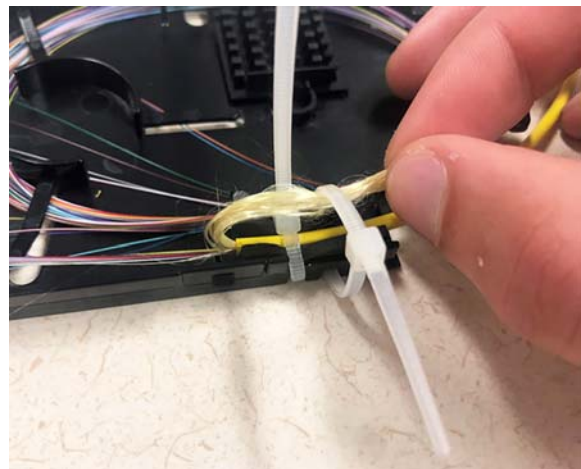

Figure 14. Installing Cable Ties
- Secure forward cable tie around cable and foam wrap. Fold strength member back and secure rearward cable tie around fiber, foam wrap, and strength members (Figure 14).